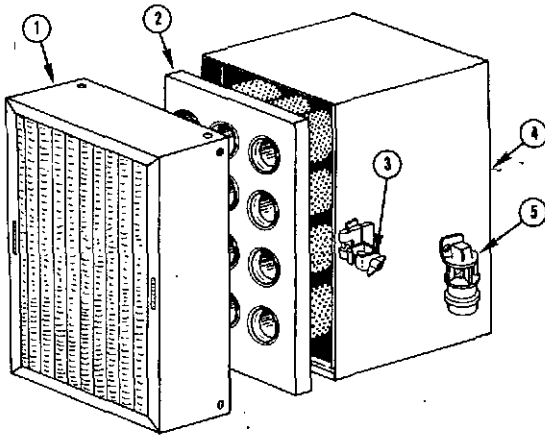

Fig. 5-15, V11009. Cartridge - type air cleaner - single stage
1. Loosen wing nuts (3, Fig. 5-15) on air cleaner housing and remove moisture eliminator (1) and rain guard, if used.
2. To install a new cartridge, hold cartridge (2, Fig. 5-15) in same manner as when removing from housing (4). Insert clean cartridge into housing; avoid hitting cartridge tubes against sealing flange on edges of air cleaner housing.
4. Position moisture eliminator (1) to air cleaner housing (4) and secure wing nuts (3).